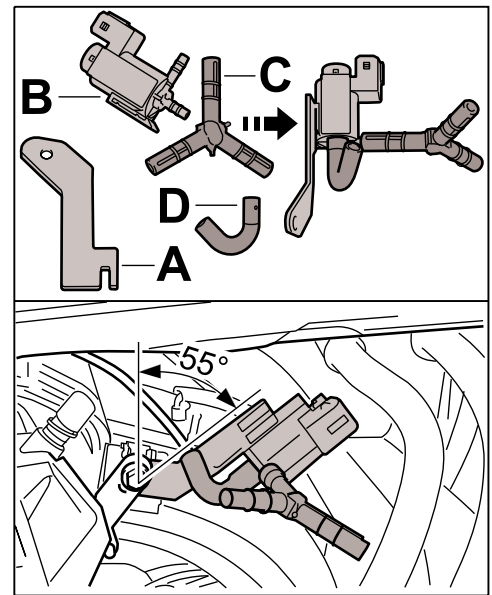

Figure 6
- 2.1 Clip in holder (⇒ *Figure 6-A*) at the change-over valve (⇒ *Figure 6-B*).
- 2.2 Fit Y-piece (1 x ⇒ *Figure 6-C*) and bent protective tube (⇒ *Figure 6-D*) on the change-over valve as required.
- 2.4 Position holder with change-over valve at an angle of approx. 55° and fit together with the support for the reservoir on the intake distributor for cylinders 4–6 (⇒ *Figure 6-bottom*).